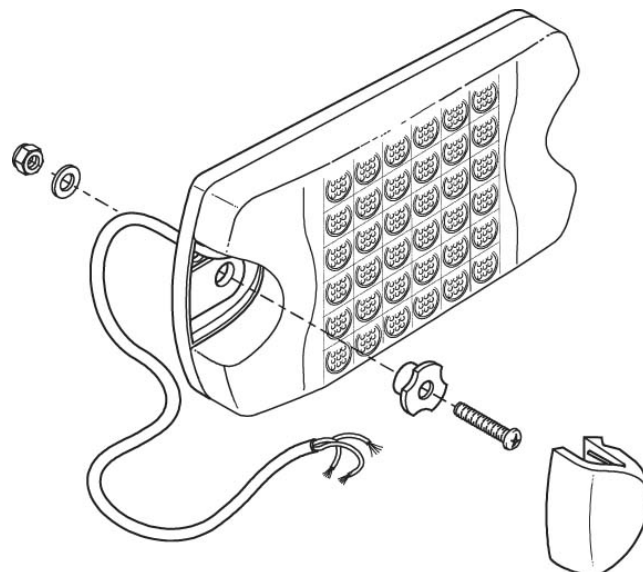

Figure 13 Stop, Tail and Indicator Fittings
- 74. Access to the fitting hardware of the stop/tail and indicator light assemblies is illustrated in Figure 13. Slide a small, flat-tip screwdriver between the innermost corner of the black plastic cover and the lens to remove cover.